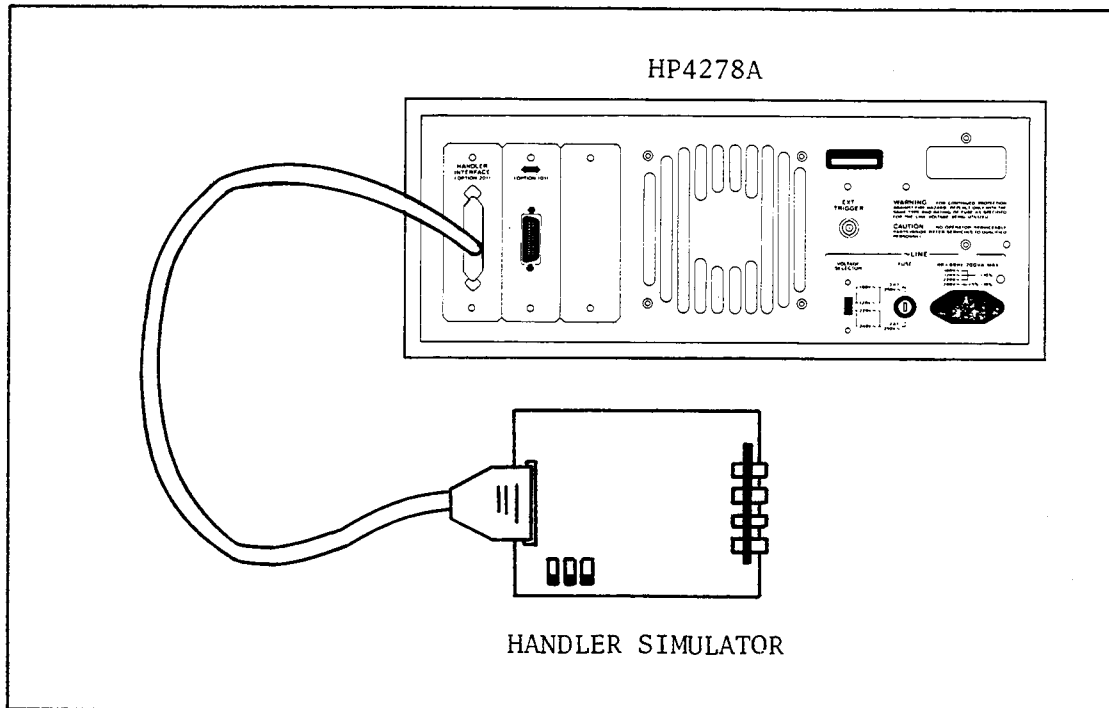

Figure 6-12. Handler Interface Test Setup (Option 201)
10. Connect the handler interface connector on the 4278A's rear panel to the handler simulator as shown in Figure 6-12.